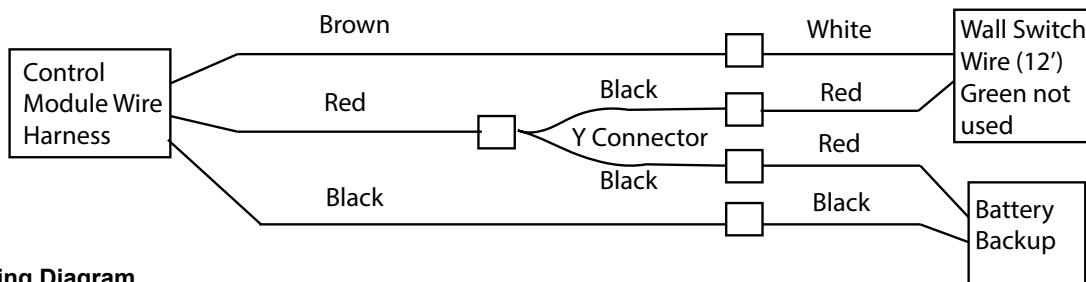

Figure 3 – Wiring Diagram
2. This kit will use wires from the control module and battery backup. Follow the wiring diagram to complete connection. See Figure 3.